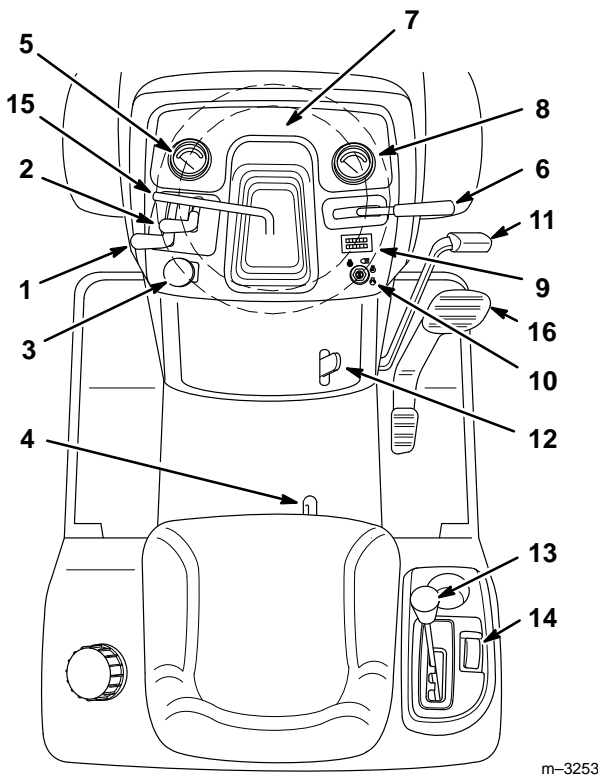

Figure 11
Become familiar with all the controls (Fig. 11) before you start the engine and operate the machine.
1. Push the brake pedal (Fig. 11) down and hold it in the depressed position.
2. Lift the parking brake lever (Fig. 11) up and gradually take your foot off the brake pedal. The brake pedal should stay in the depressed (locked) position.
1. Push down on the brake pedal (Fig. 11). The parking brake lever should release.